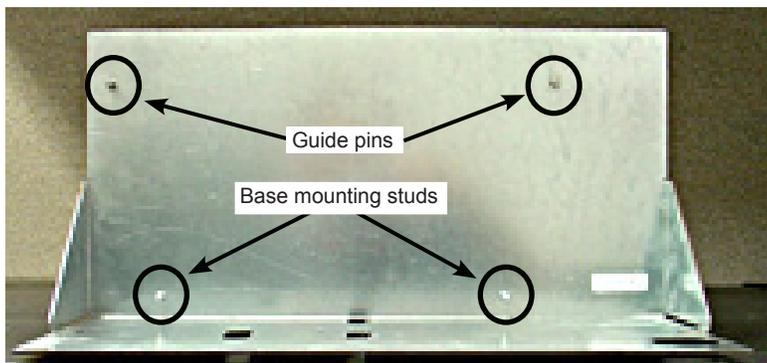

Figure 11. Power supply mounting points on the power supply mounting bracket
1. Refer to Figure 11. Start nuts on the two (2) base mounting studs on the power supply adaptor bracket. Do not tighten.
2. Refer to Figures 11 and 12. Mount the power supply on the power supply adaptor bracket. Make sure the guide pins and base studs on the bracket fit into the corresponding locations on the backside of the power supply. Make sure the lower edge of the power supply slips onto the base studs between the nuts and the bracket.